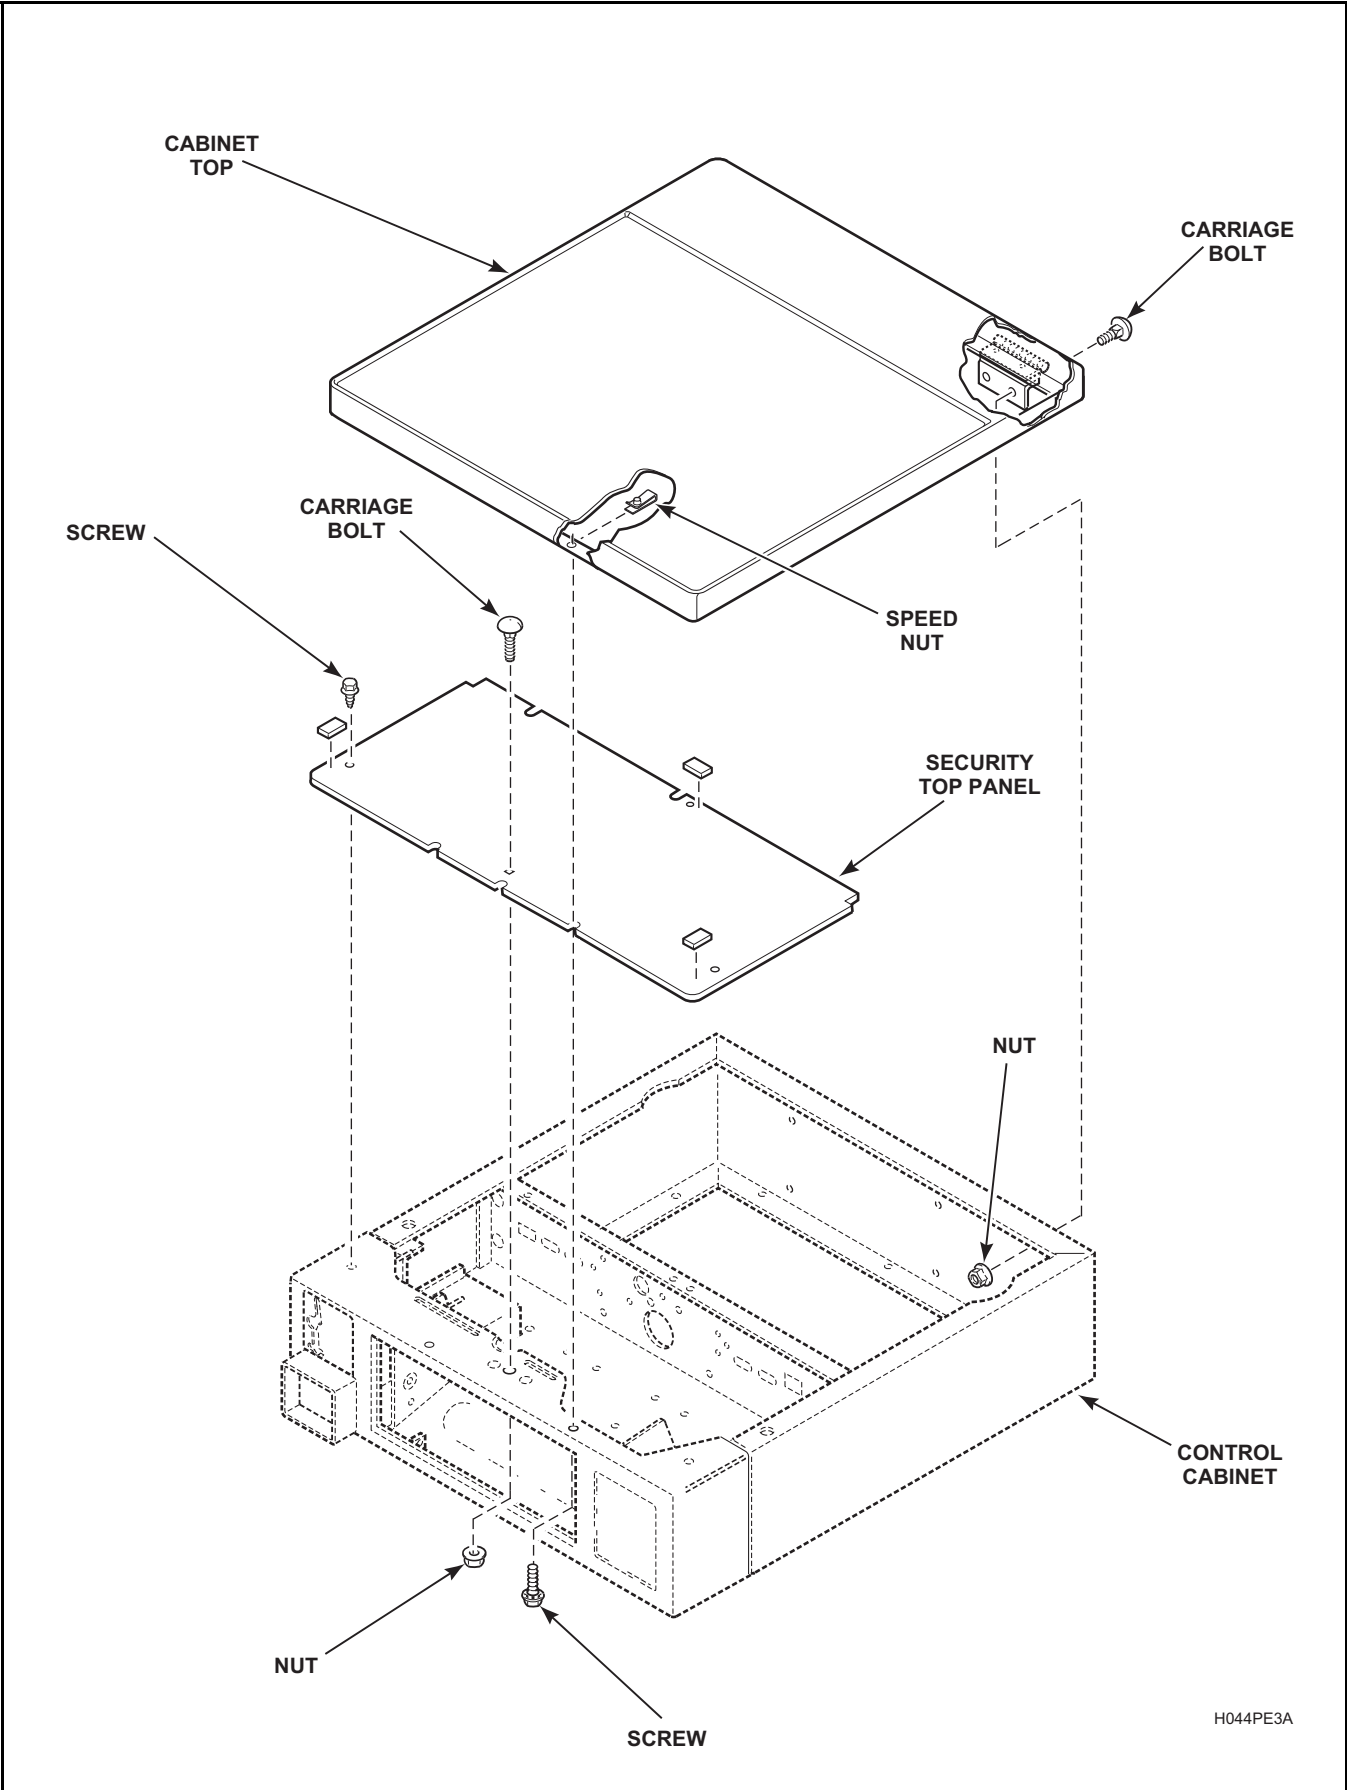

Figure 20
- f. Remove cabinet top from washer by removing nuts and carriage bolts holding cabinet top and hinges to control cabinet. Refer to *Figure 20*.